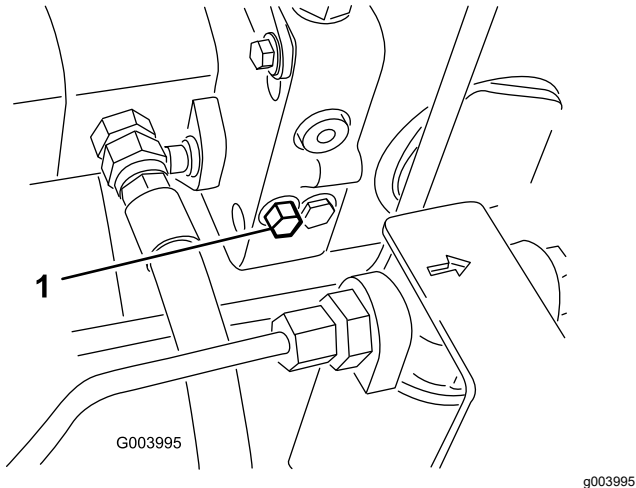

Figure 92
1. Rotate the bypass-valve bolt 1-1/2 turns to open and allow oil to bypass internally (Figure 92).